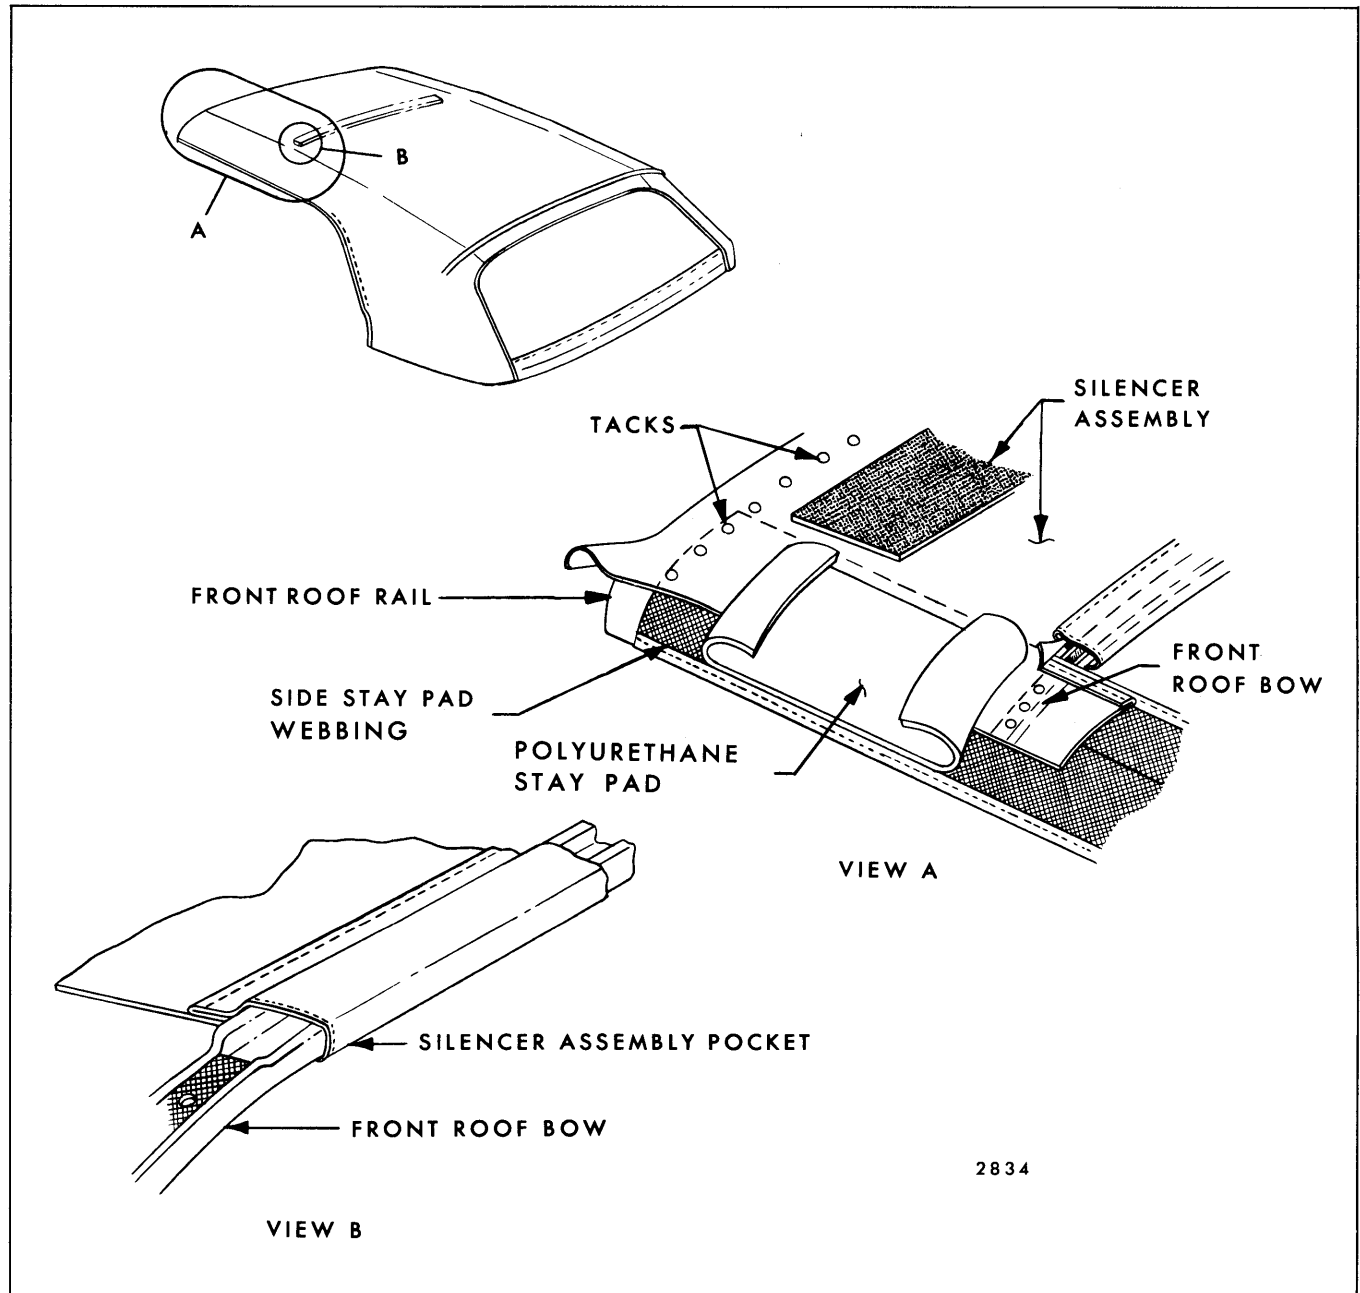

Fig. 13-53—Folding Top Silencer Assembly
1. With deadener pad on top side of assembly, slip pocket on assembly over front roof bow (View "B", Fig. 13-53).
5. Tack outboard ends of assembly to front roof rail (View "A", Fig. 13-53).